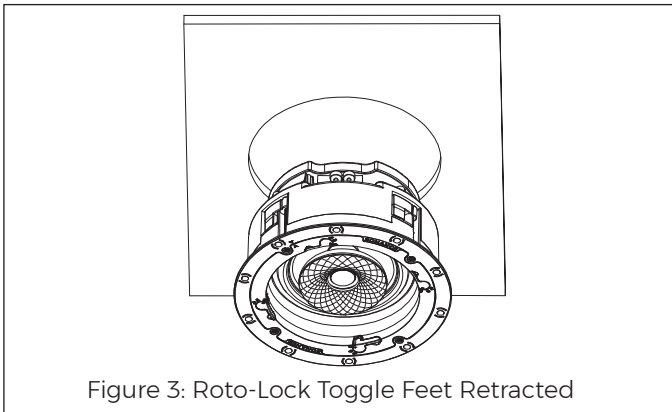

Figure 3: Roto-Lock Toggle Feet Retracted
- Make sure all the Roto-Lock toggle feet are retracted so that they are tucked within the mounting hole's border (see Figure 3).